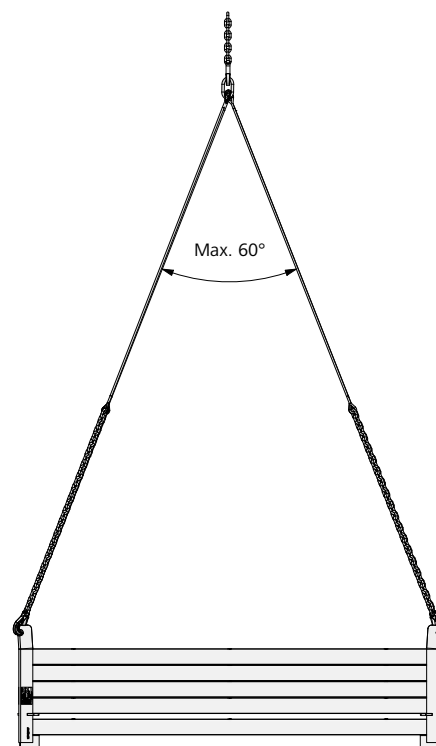

Fig. 49.4
- The opening angle of the crane sling must not exceed 60° (Fig. 49.4).